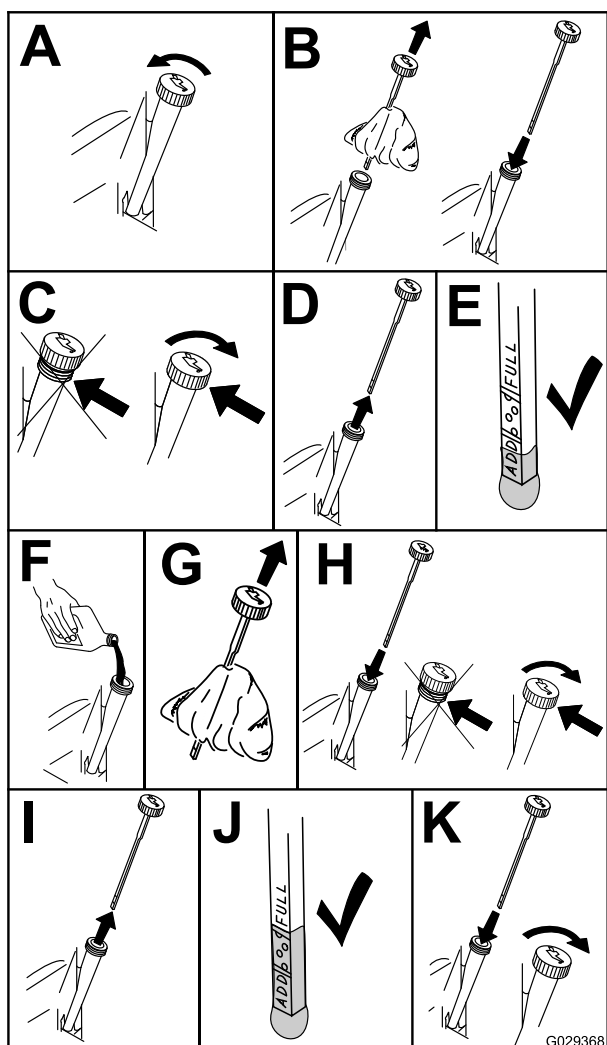

Figure 66
- To keep dirt, grass clippings, etc., out of the engine, clean the area around the oil-fill cap and dipstick before removing it (Figure 66).